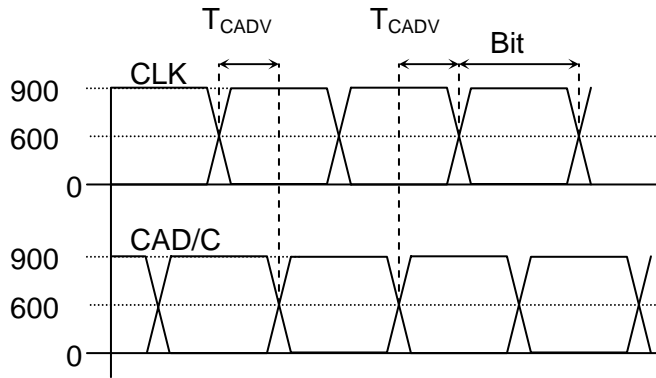

Figure 2. HyperTransport Link Signal Levels and Timing
*Figure 2* shows the nominal voltage levels and timing of the differential HyperTransport signals.  $T_{CADV}$  is the CAD/CTL valid time relative to the CLK signal. Section 19.5 of the HyperTransport Link Specification lists the maximum and minimum values of  $T_{CADV}$  for different link speeds.